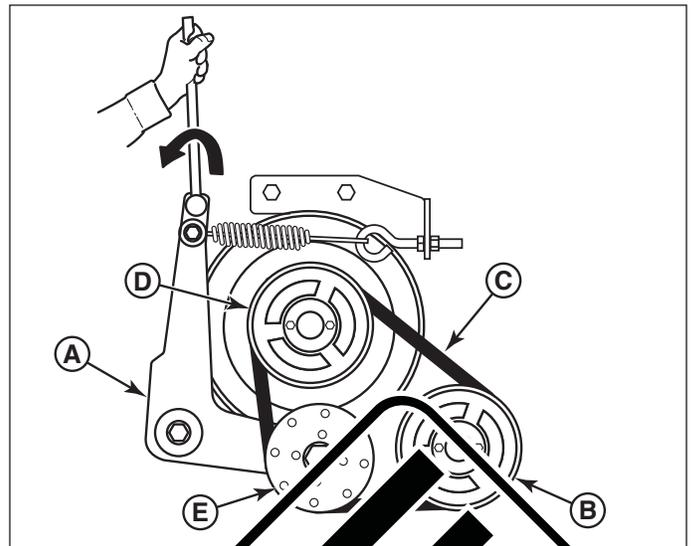
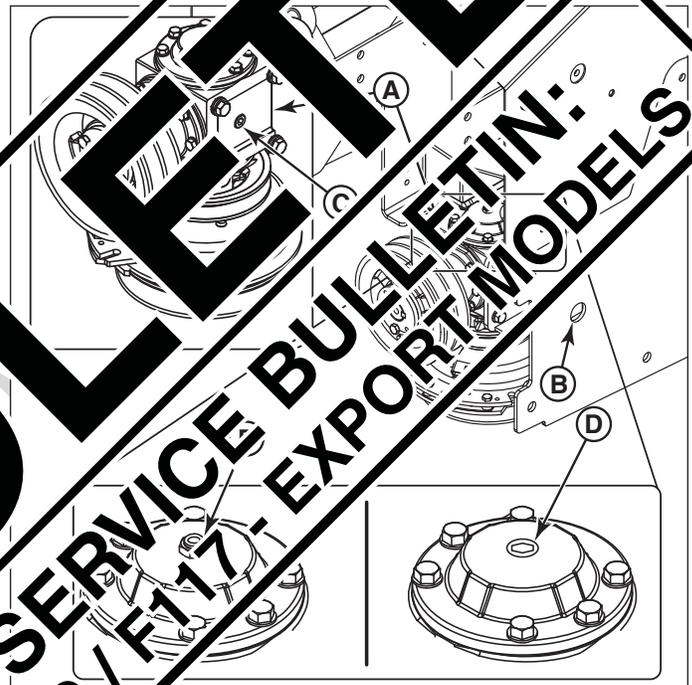

Figure 5. Removing the Gearbox Drive Belt
Figure 6. Installing the Gearbox Vent
9. Using a 1/2" breaker bar, place the square end in the square hole located in the end of the idler arm (A, Figure 5). Carefully rotate the breaker bar **counter-clockwise**, which will relieve the tension exerted from the idler arm.
10. Slide the gearbox drive belt over the edge of the gearbox pulley (B). Carefully release the tension on the breaker bar.
11. Remove the gearbox drive belt (C).
12. The gearbox (A, Figure 6) is now accessible.
13. There is a port (B) on the right side of the machine that allows you to access the gearbox's fill plug (C). Remove the fill plug from the gearbox.
15. Remove the round internal hex set screw (D) and install the raised hex vent (E).
16. Re-install the gearbox drive belt (C, Figure 5), the crankshaft pulley (D) and the lower secondary pulley (E). Carefully rotate the breaker bar **counter-clockwise** and install the belt on the gearbox pulley (B). Carefully release the tension on the breaker bar.
19. Re-install the belt (D, Figure 5), using the three (3) 1/2" X 1" bolts (A) and 1/2" SAE washers (B).